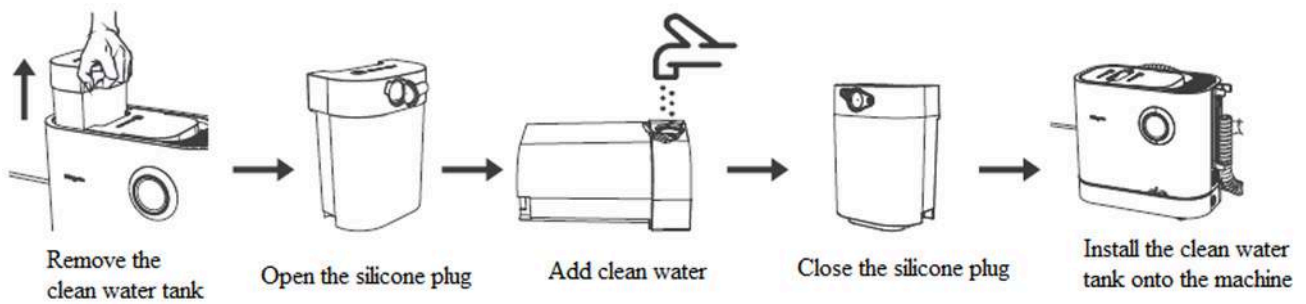

Fig. 6
4. Remove the clean water tank from the machine and open the water tank silicone plug, and then fill the clean water tank with clean water not exceeding the maximum water level. Finally, close the silicone plug and install the clean water tank onto the machine (see Fig.6).